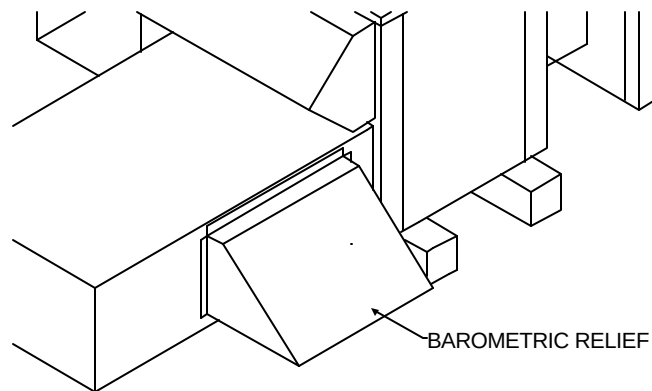

Figure 5
If the barometric relief is to be installed cut a 18" x 20" hole in the return air duct near Economizer. (See Figure 5).
Secure pressure relief damper near Economizer over hole in return air duct using (4) screws. Refer to Figure 5.